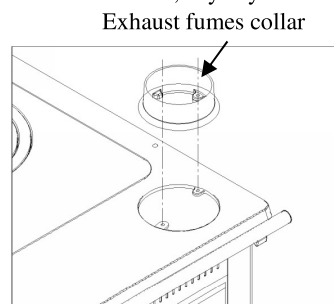

Fig. 1
- Place the collar over the plate (Fig.1) and fix it to the plate employing the enclosed screws. Be careful to employ the screws in the right way.